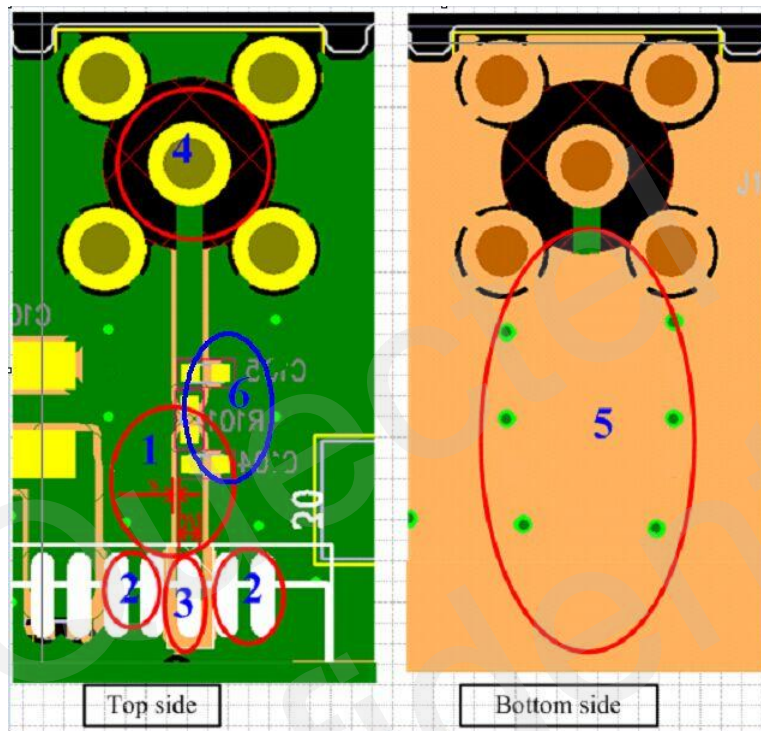

Figure 6: An example of PCB layout
4. Keep a certain distance between signal pad and ground when packaging the device. Refer to Figure 6. If the signal pad is in SMD type, pouring copper on the corresponding signal pad.
6. Three components consist of PI type matching circuit shown as Figure 6. Place the pad to antenna as close as possible, as shown in Figure 6. If the distance between SMA and RF PIN is too short to place the three pin of PI type matching circuit, PI type matching circuit can be changed into L matching circuit.